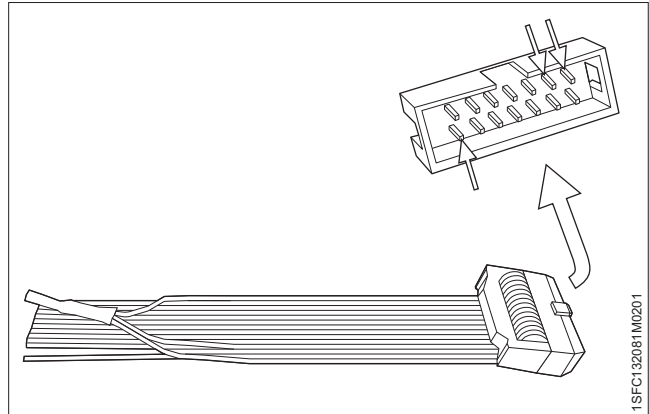

Figure 9.14
2. Order a special jumper cable from the Softstarter support (se-softstarters-support@abb.com) or modify an existing cable by connecting three pins from the COM2 port together as shown in **Figure 9.14**. The special jumper cable will set the PSTX Softstarter into boot mode.